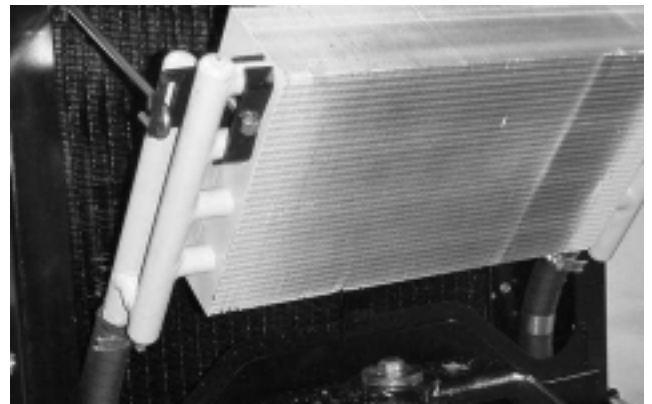

Figure 48
3. Unlatch the oil cooler and pivot it rearward (Fig. 48). Clean both sides of the oil cooler and radiator area thoroughly with water or compressed air. Pivot the oil cooler back into position.